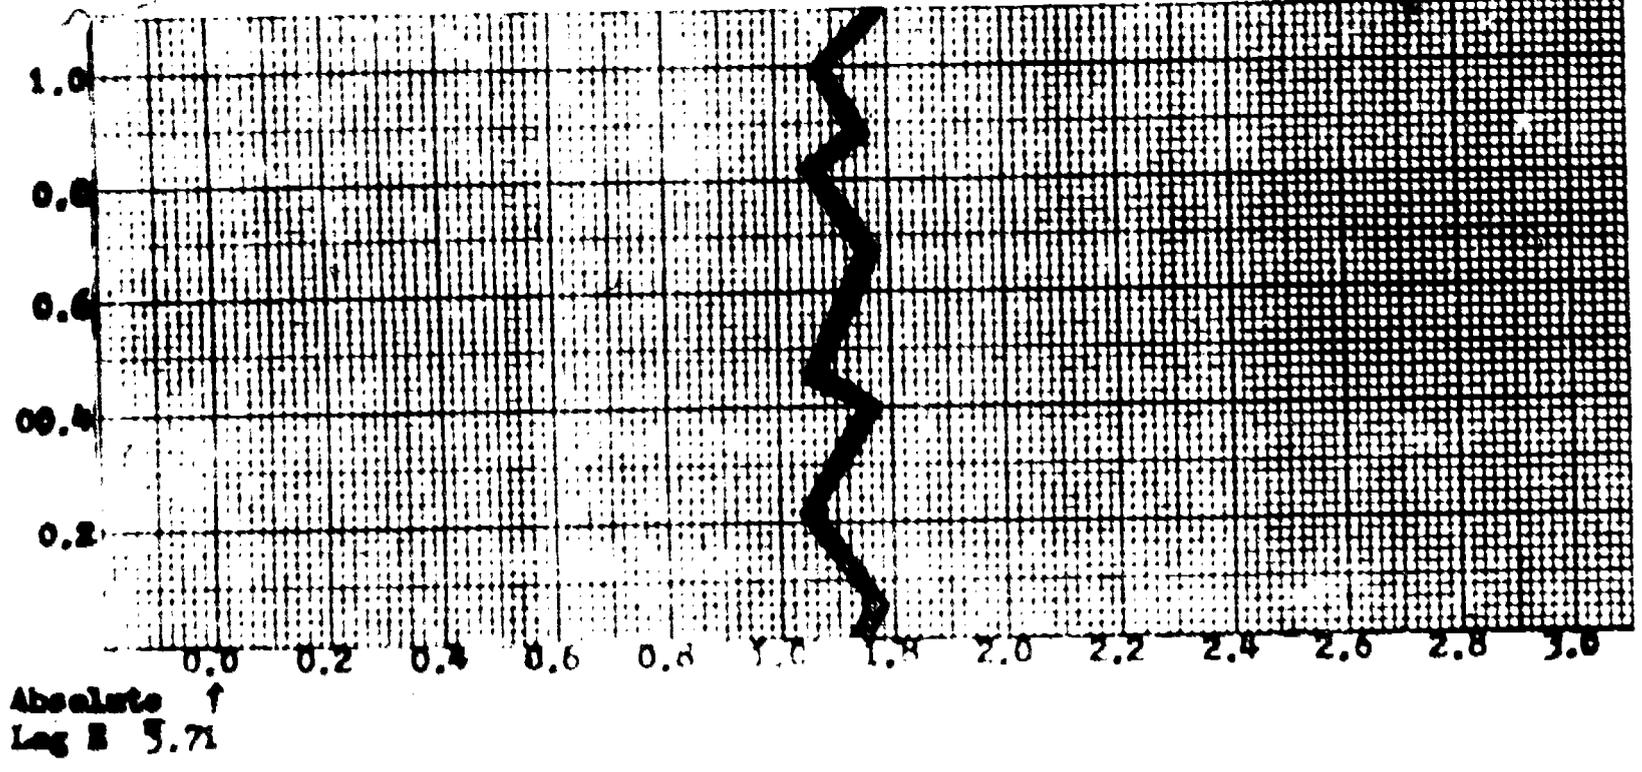

Figure 5-10. Relative log E.
- b. Mark off 21 steps in even increments of 0.15 starting from zero. (See fig. 5-10.)
5. Subtract the density of the densest end of the step wedge from the above value. This is the log E value of the zero relative log E point. Mark this value on the graph at the zero relative log E point, see figure 5-10.